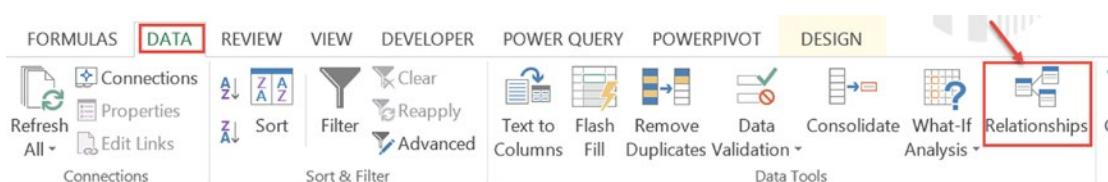

Figure 21-6. The Relationships option on the Data tab
1. Click Relationships on the Data tab (Figure 21-6).